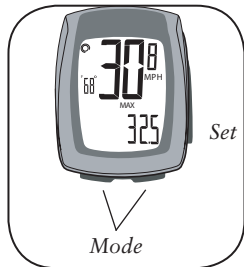

Figure 12- Buttons on the Incite 9i and 11i computer
The buttons on the computer are (Figure 12):
1. Cycle Mode to MAX (Figure 12).